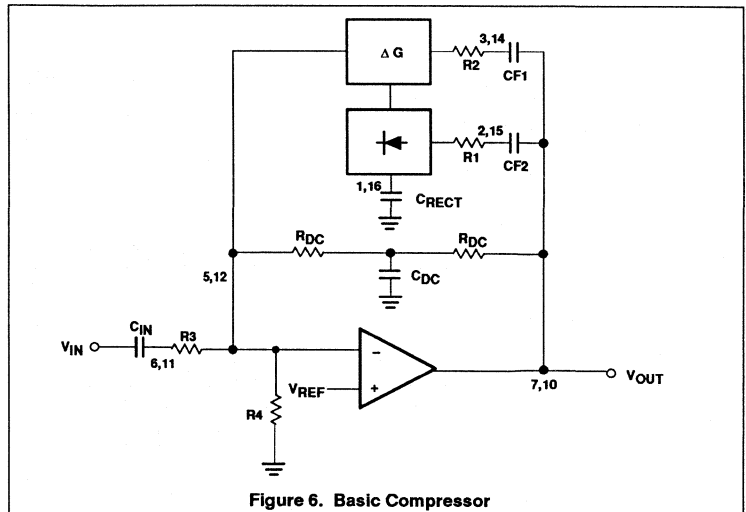

Figure 6. Basic Compressor
1) DC bias the output half way between the supply and ground to get maximum headroom. The circuit in Figure 6 is designed around a system supply of 6V, thus the output DC level should be 3V.